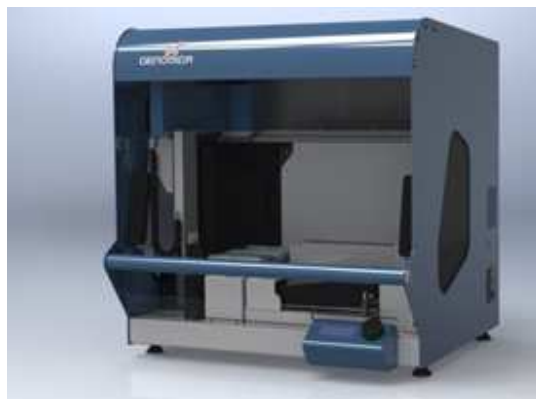

Figure 4. autoclart®
- autoclart® (Figure 4). The following equipment is needed for the automatic visualization phase. It enables the automatic visualization of up to 12 CS, that means, a total amount of 96 samples.